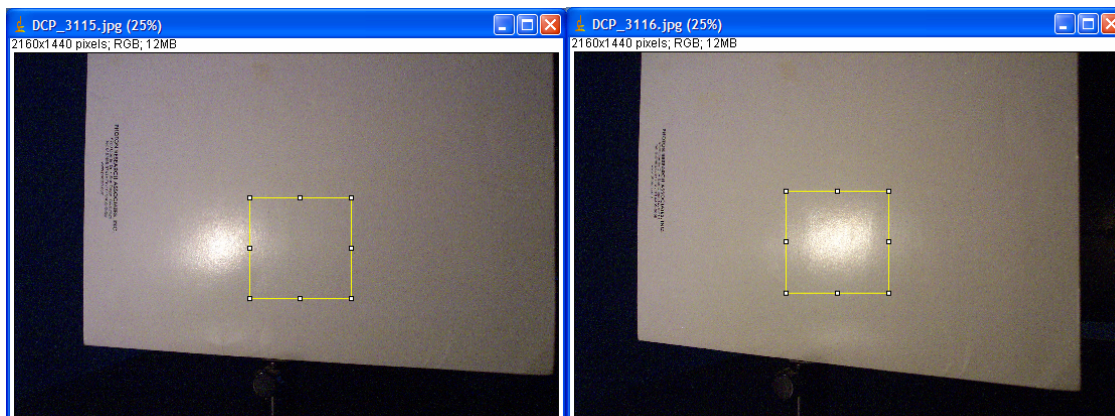

Figure 7 Image of semigloss folder at angles a) $L(15, 0)$ and b) $L(30, 0)$. Notice how the specular lobe moves across the field of view.
- a. Be sure to average over the same region in each image. A “mark” at the bottom of your sample may help you identify the same image-to-image region. If you have a ‘hot spot’ or specular lobe (as seen in Figure 7) you’ll want to make sure you capture it at acquisition location $L(30,0)$.